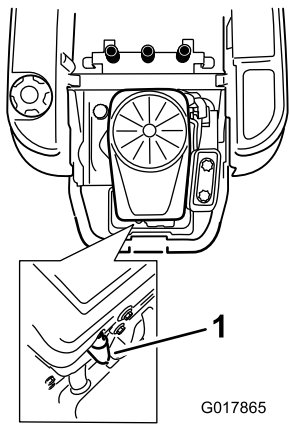

Figure 32
- Disconnect the wire from the spark plug (Figure 32).